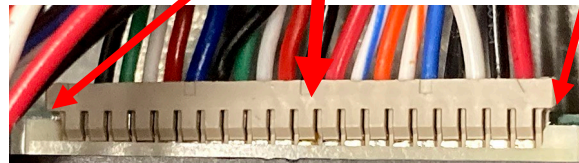

Figure 6.2
- Ensure the connector, that attaches directly to the rear of the touch screen, is fully inserted into the connector by pressing in on both sides of the connector (see Figure 6.2). The photo shown above shows the right side slightly out of the connector. It may require disconnecting and reconnecting the connector. Both sides of the connector should be flush against the connector on the board.**